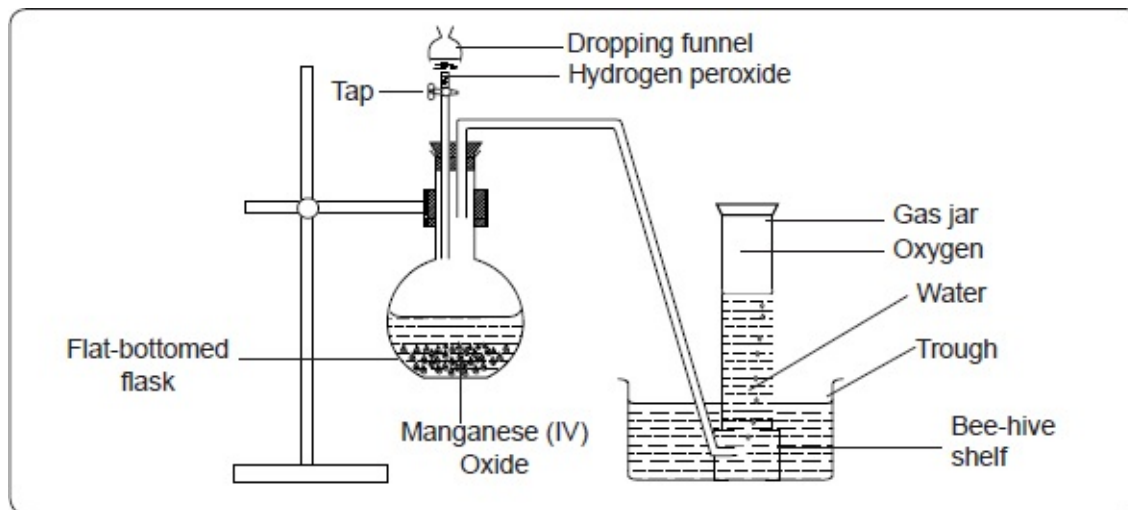

Fig 4.9: Laboratory preparation of oxygen.
Set the apparatus as shown on figure 4.9 and remove the lid. Put about 2g of manganese (IV) oxide into a flat-bottomed flask. By means of a dropping funnel add hydrogen peroxide drop-wise into the flask. Let the first few bubbles escape then collect the gas as shown in figure 4.9.
**(i) Adding water to Solid Sodium Peroxide using the set-up in figure 4.9**